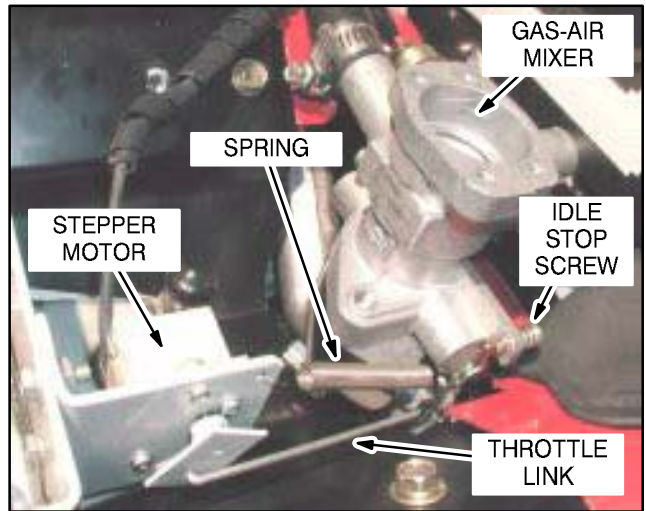

FIGURE 11. STEPPER MOTOR (GCAB, GCAC)
**Models GCAB and GCAC:** The stepper motor lever and throttle lever are connected by a link and spring as shown in Figure 11.